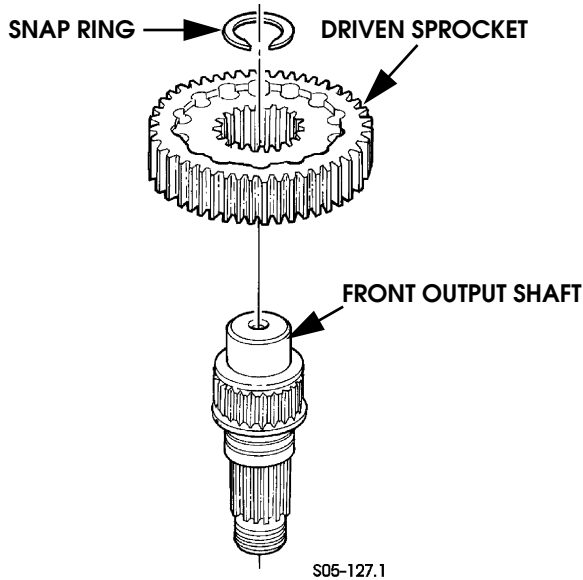

Figure 5-155: Front Output Shaft and Sprocket Assembly
24. Assemble driven sprocket and front output shaft. Use new snap ring if old one is worn or distorted (Figure 5-155).